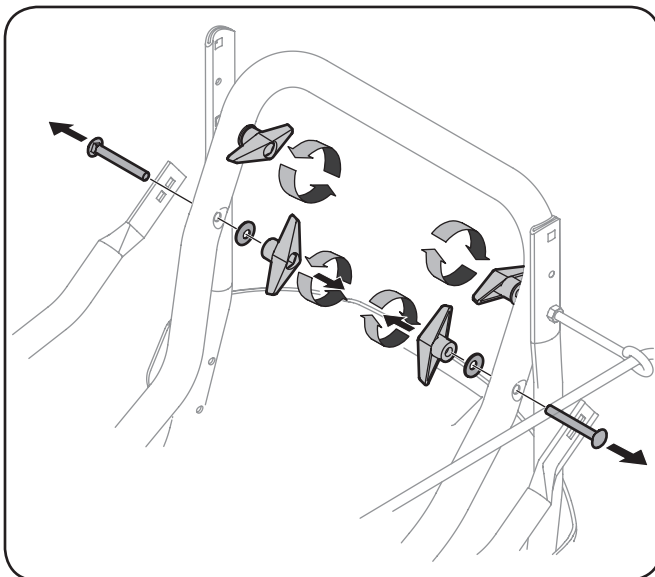

Figure 3-1
2. Remove the lower wing nut, bell washer and carriage bolt from each side of the upper handle, as seen in Fig. 3-1.